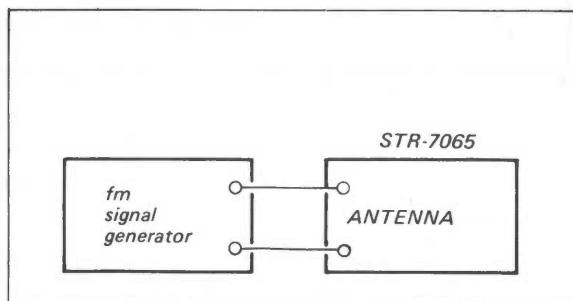

Fig. 3-8. Tuner input meter calibration test setup (Fm)
1. Connect the test equipment as shown in Fig. 3-8.